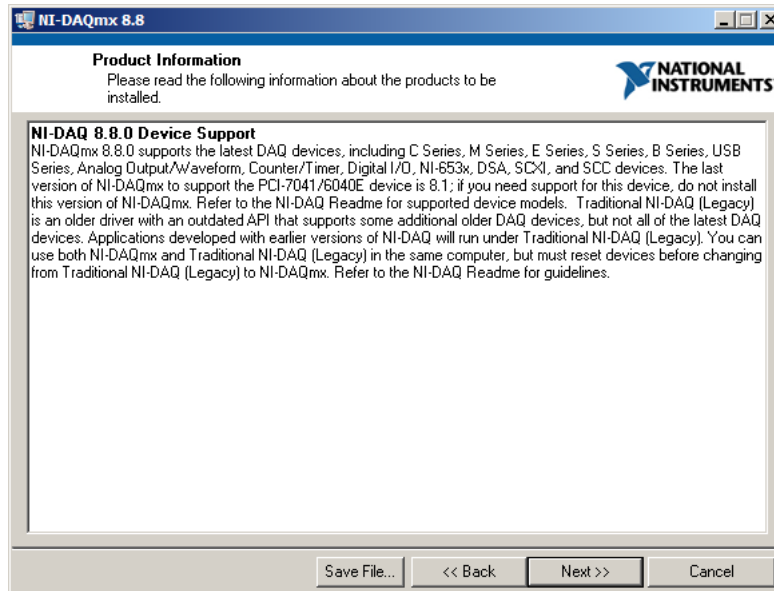

Figure A.2: NI-DAQ product information window.
- Click Install Software, and the installer appears, starting with the product information — Figure A.2.